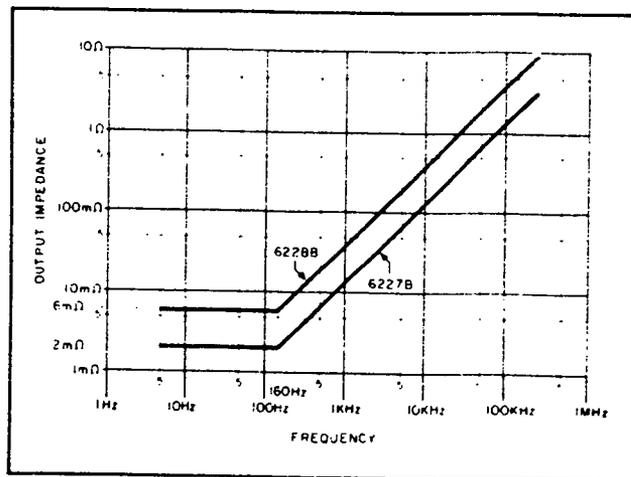

Figure 5-8. Output Impedance versus Frequency
- Repeat Steps (d) through (i) for any other frequencies of interest up to 250kHz. (Note: Amplifier is not required at frequencies above 20kHz.) For any given frequency, the output impedance should be less than that indicated by the value of the curve in Figure 5-8. For example, at 1kHz the output impedance should be less than approximately 11 milliohms for the 6227B and 40 milliohms for the 6228B.